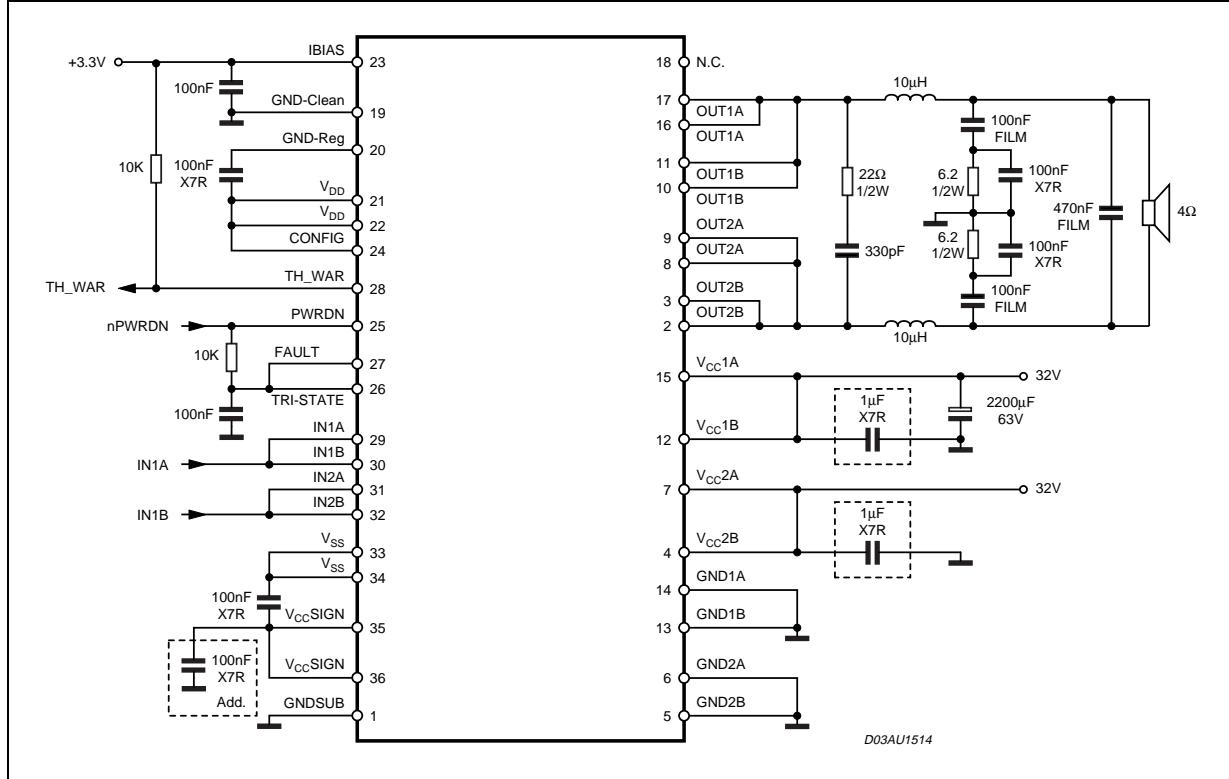

**Figure 2.**
**LOGIC TRUTH TABLE (see fig. 2)**